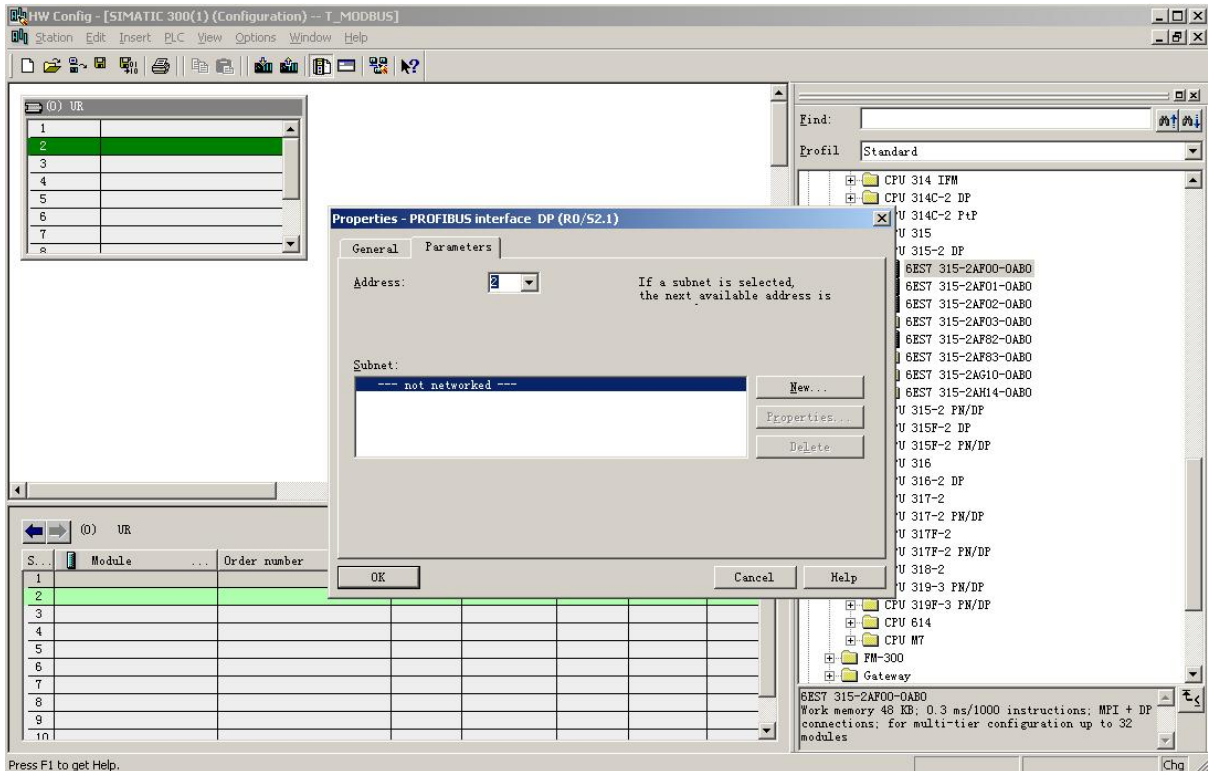

Figure 7
7. Set PLC rack, click the "Hardware Catalog \ SIMATIC 300 \ RACK-300 \ Rail". Figure 7: